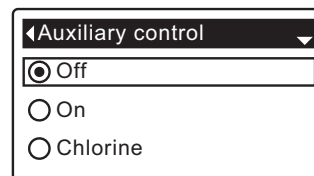

FIG. 75
7. Press the SELECT (O) button to display the Auxiliary control menu (See Figure 75).
8. If the desired option already has a black dot next to it (See Figure 75), go to Step 9. Otherwise, press the DOWN (▼) or UP (▲) buttons to scroll to the desired option, then press SELECT (O) to choose it.